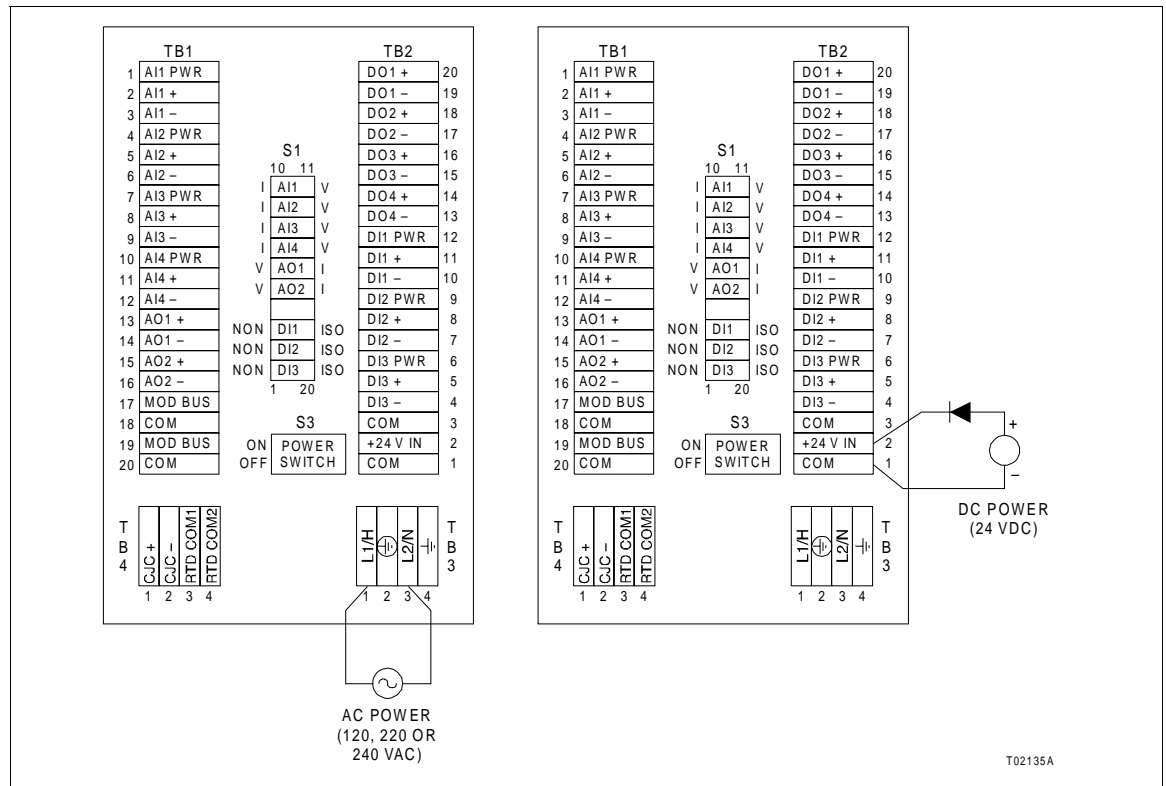

Figure 2-2. DC and AC Power Supply Wiring Connections
2. Connect the specified DC voltage (24 VDC, $\pm 10\%$) to terminal block TB2-2 (+) and TB2-1 (common) as shown in Figure 2-2.
Refer to Figure 2-2 for AC wiring connections.
The Type SLC controller does not require special settings or adjustments if redundancy in power supplies is needed. Both a 24 VDC supply and a 120 VAC (220 or 240 VAC) supply can be wired to the unit as described in **AC POWER WIRING**, thus providing continuous power to the unit in case a supply fails. Jumper W110 should be set to the E4 position for redundant power supply wiring. Additionally, a blocking diode should be installed in series with the external DC source to prevent back feeding to the external DC source from the controller's power (Fig. 2-2).